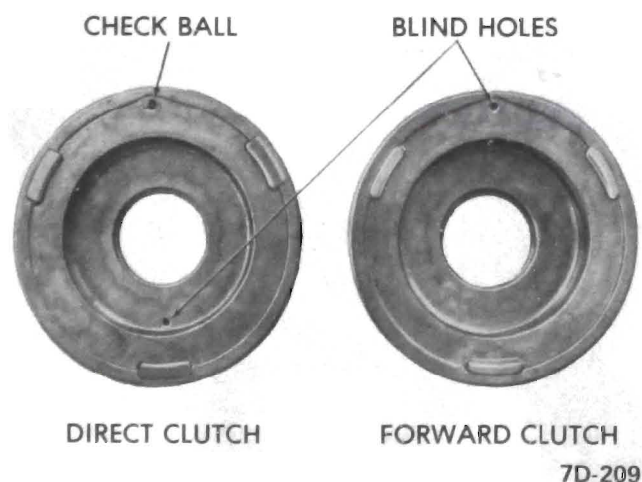

Figure 7D-140
The forward and direct clutch pistons have identical inside and outside diameters. It is possible to reverse the pistons during reassembly, therefore care should be exercised to make certain the proper piston be installed in the clutch assemblies as shown in Figure 7D-140. The forward clutch piston can be identified by the blind hole in the clutch apply face of the piston.
2. Place a new center seal on the clutch housing, lip faces up. See Figure 7D-138.